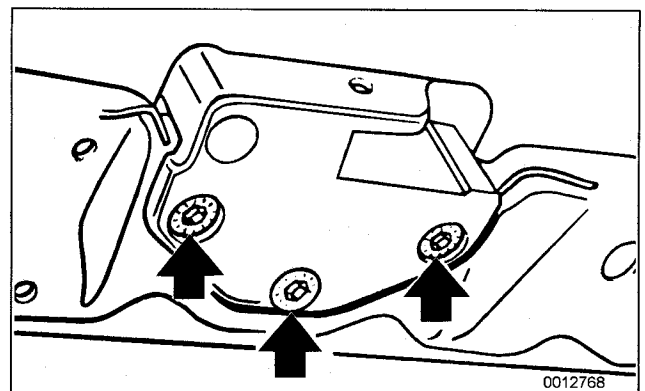

Fig. 1. Visor latch plate is held to top of windshield with three bolts (arrows).
- Retighten bolts. See Fig. 1.